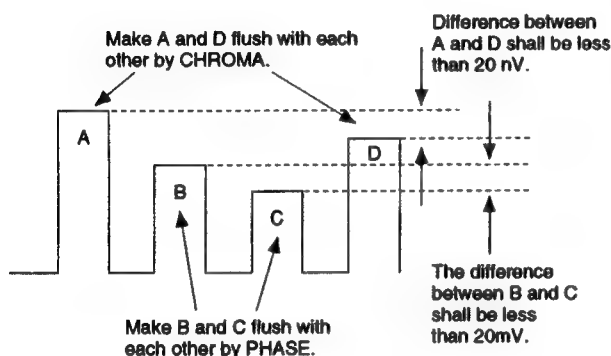

Fig. 5-22
- 4) While tracking by means of **B-Y PHASE NTSC 443** and **CHROMA NTSC 443 NOR**, make adjustment so that the peaks of waveforms will be the same. (Fig.5-22)